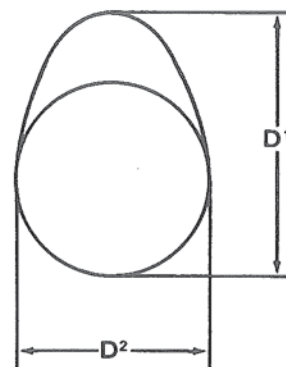

Figure 42. Measuring Camshaft Lobe.
1. Measure height and width of each cam lobe. Figure 42.